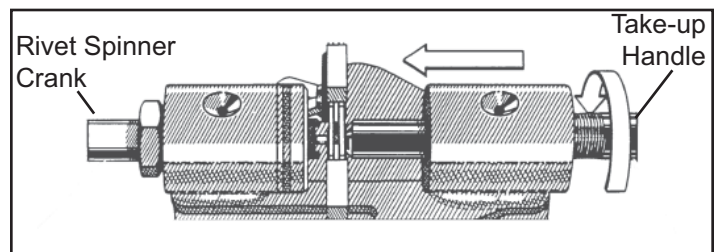

Figure 19. Securing the Chain
3. Turn the take-up handle until the chain is tight against the spinner anvil (Figure 19).